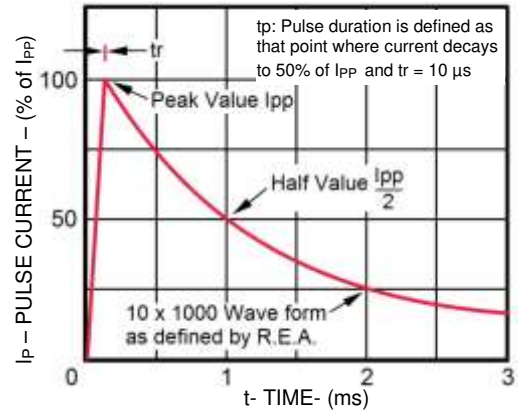

FIGURE 2
* See Figure 2 for I_{PP} waveform of 10/1000 μs test pulse.